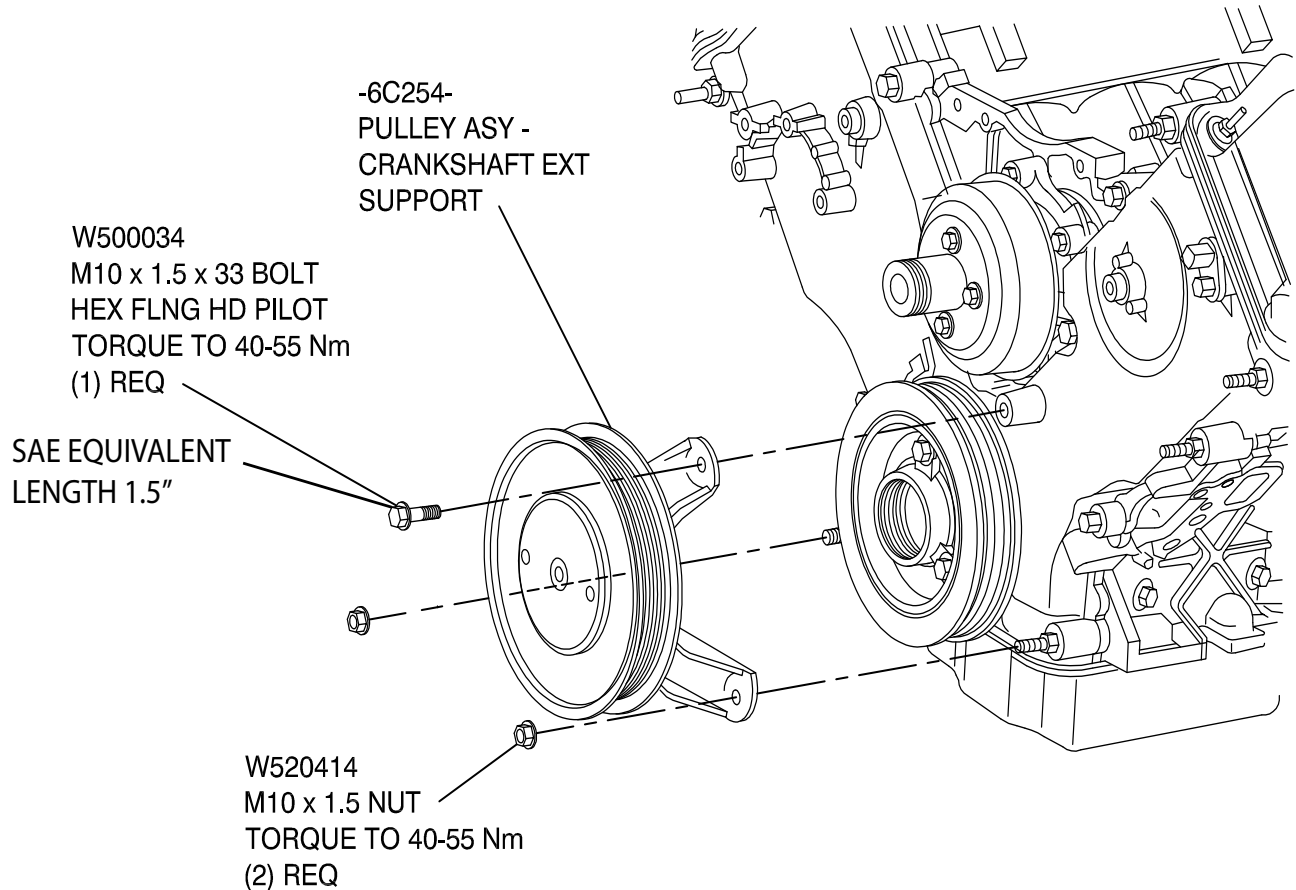

Figure 36. Install Pulley Assembly Crankshaft Ext Support
4. Install -6C254- pulley asy - crankshaft ext support by turning pulley counter clockwise into -6A329- adapter - crankshaft torque to 95-105 Nm (70-77 lb-ft). See Figure 36.